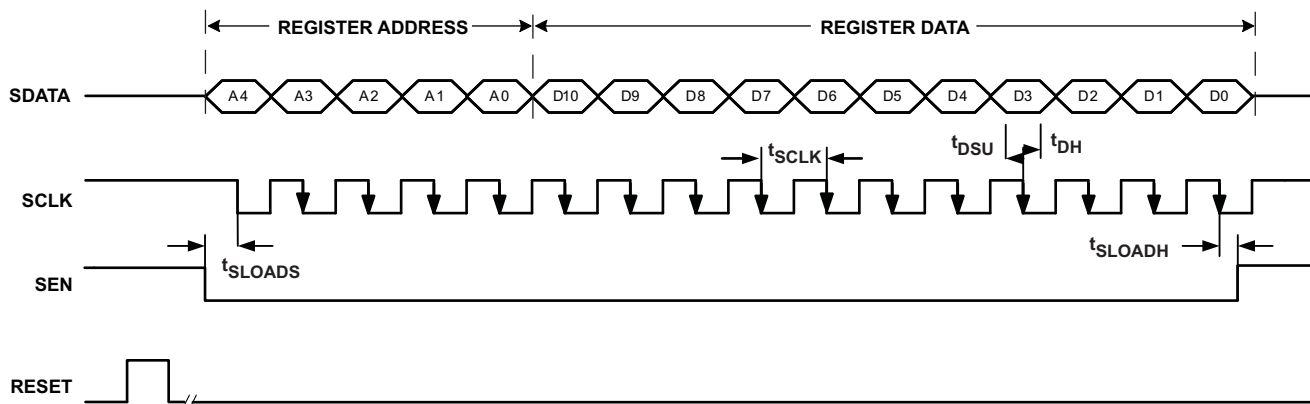

Figure 5. Serial Interface Timing Diagram
1. Use a hardware reset by applying a high-going pulse on RESET pin (of width greater than 10 ns) as shown in Figure 5.